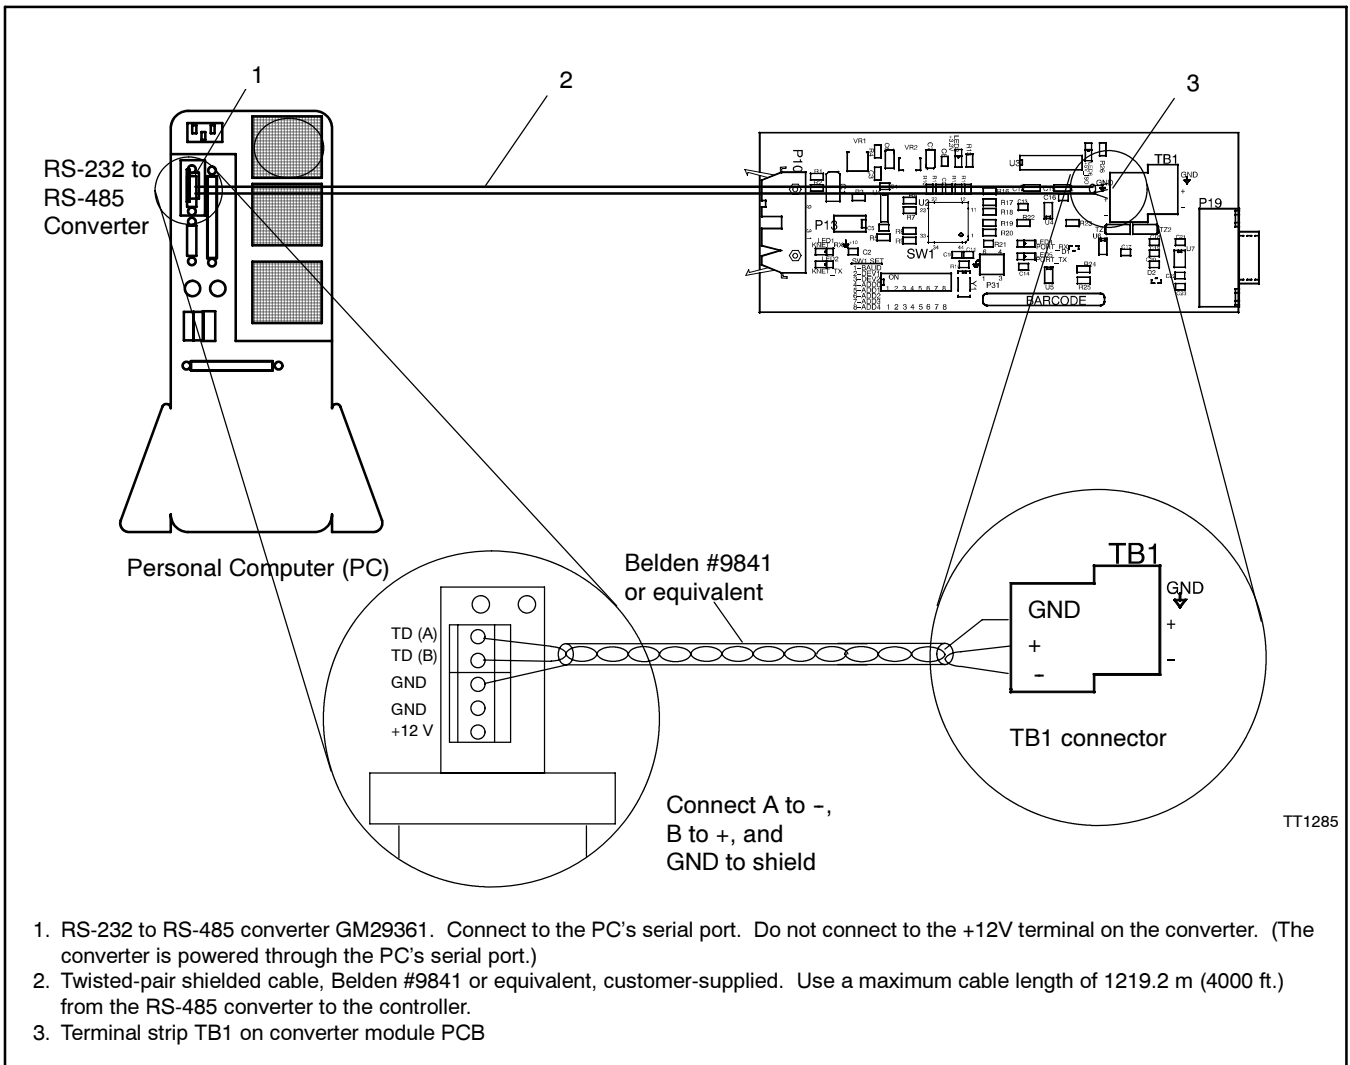

Figure 16 Converter Module-to-Personal Computer RS-485 Connection (Note: RS-232 connection is also possible)
6. For RS-485 connections, use an RS-232 to RS-485 converter (available from the factory, part number GM29361) for the PC connection. Shielded twisted pair cable (customer-supplied, Belden #9841 or equivalent) is also required for RS-485 connections. Connect to TB1 on the converter module. See Figure 16.